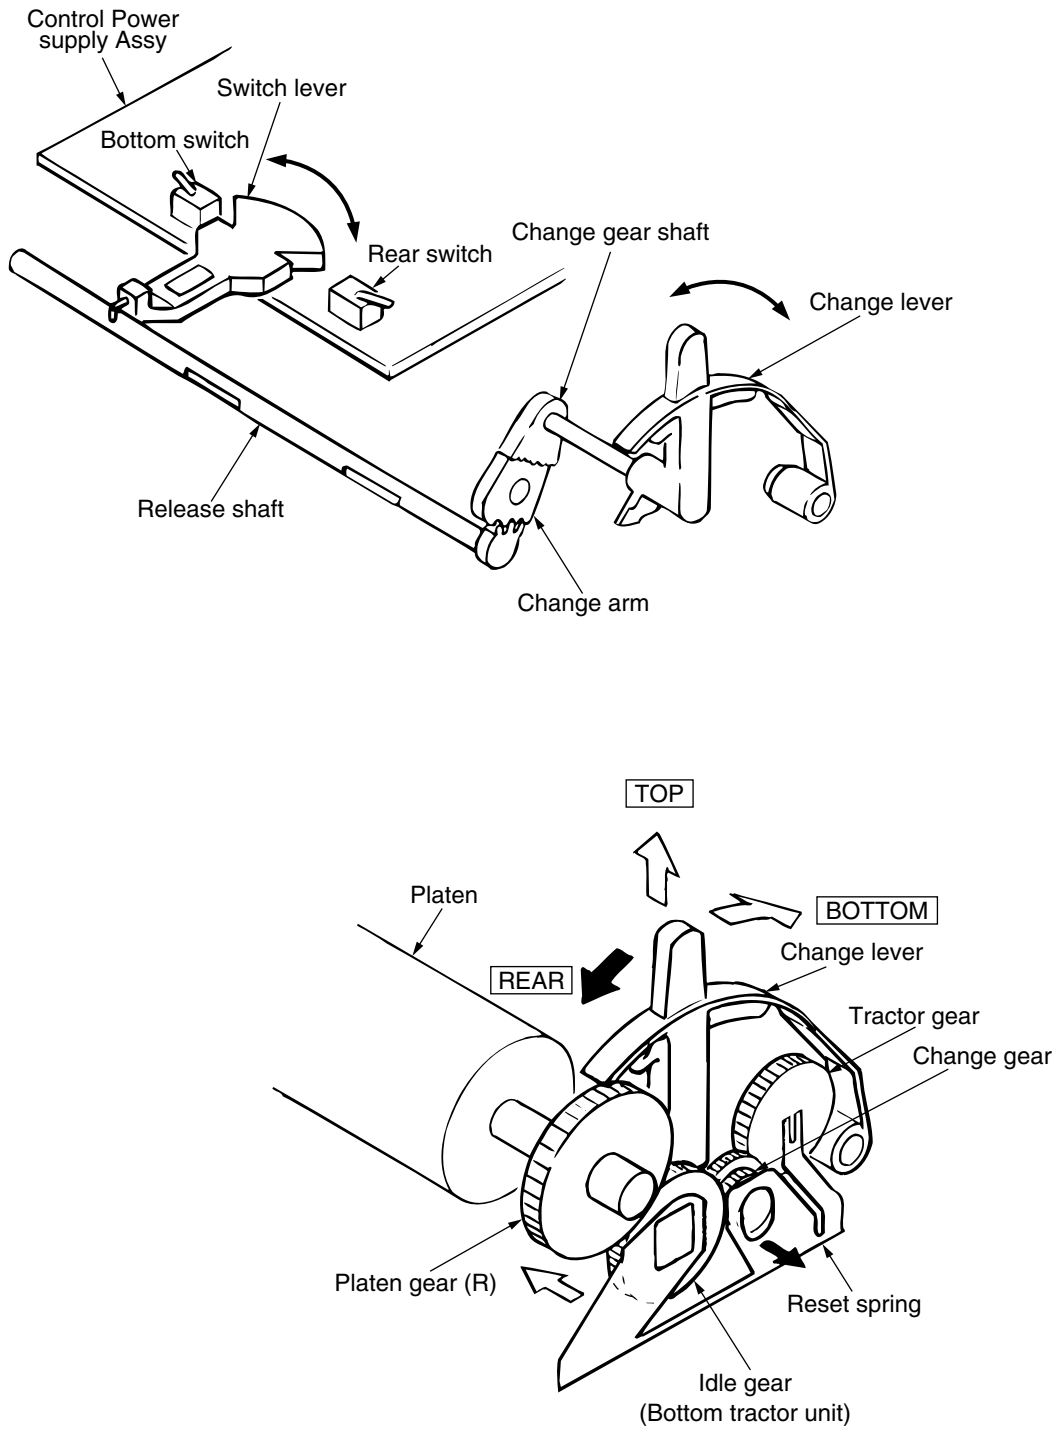

Figure 2-7
## (1) Cut sheet and continuous sheet switching mechanism (See Figure 2-7.)